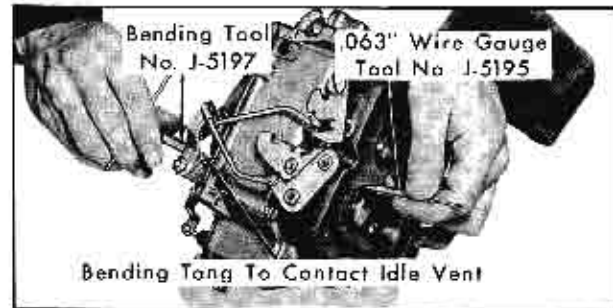

Fig. 12-19 Idle Vent Adjustment
2. Close the throttle against the gauge and bend the atmospheric vent contact arm, using Tool No. J-5197, until it just contacts the atmospheric vent valve in the bowl cover, Fig. 12-19.